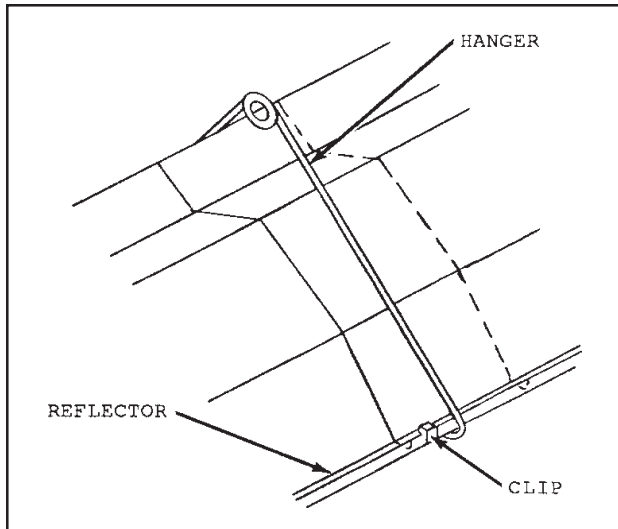

Figure 2.13
2. Slide reflectors through wire hangers and overlap mating reflector ends four inches for support (see Figure 2.13). Install sheet metal screws as shown.